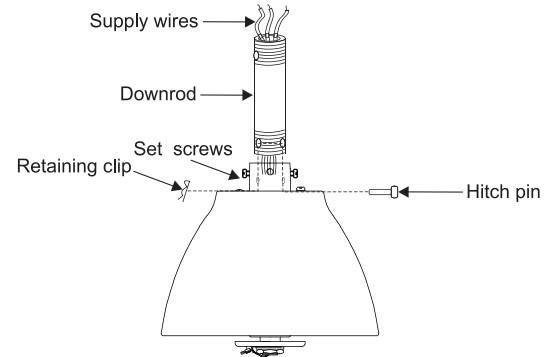

Fig. 10
Step 6. Loosen the two set screws and remove the hitch pin and retaining clip from the coupling on top of the motor assembly. (Fig.10)
Next, replace the hitch pin and retaining clip. Tighten both set screws. (Fig.10)